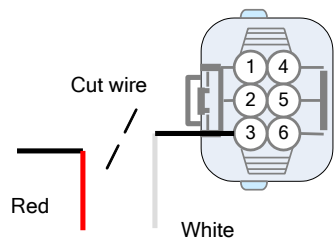

figure 4.
- Cut the wire from position 3 of the connector. Solder the white wire on wire position 3 at the connector side. Solder the red wire on position 3 at the main harness side (fig.4)